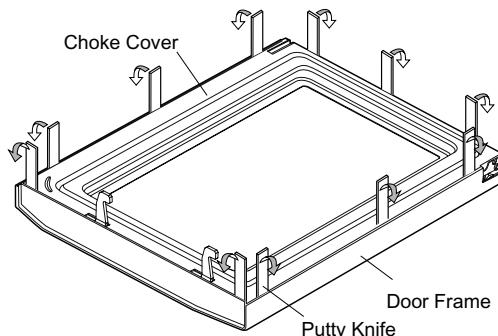

Figure C-5. Door Disassembly
3. Insert a putty knife (thickness of about 0.5mm) into the gap between the choke cover and door frame as shown in Figure C-5 to free engaging parts.
4. Pry the choke cover by inserting a putty knife as shown Figure C-5.
7. Release two (2) pins of door panel from two (2) holes of upper and lower oven hinges by lifting up.